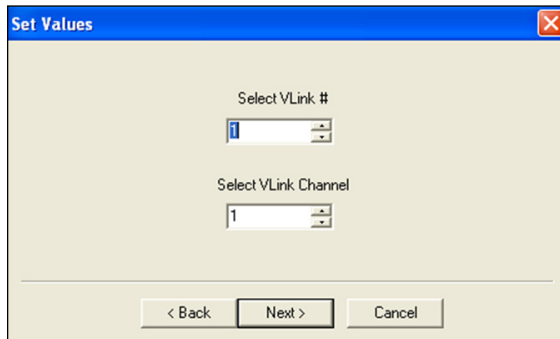

Figure 32: Setting Values
9. Select the appropriate VIP-4400 index and channel numbers. In the example shown in **Figure 32**, the Index is **1** and the Channel is **1**. Click **Next**; the **Verify Scripting Command** window opens.